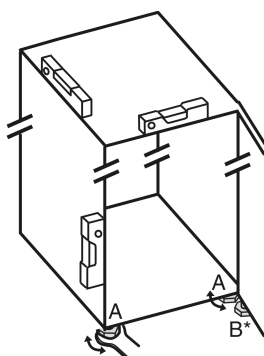

Fig. 48
- ▶ Unscrew the adjustable feet Fig. 48 (A) using the enclosed open-end spanner and a spirit level until the appliance is firmly aligned and level.
- ▶ Unscrew the adjustable foot Fig. 48 (B) on the swap bearing block with the enclosed open-end spanner until it rests on the floor.
- ▶ Turn the adjustable foot Fig. 48 (B) 90° further.